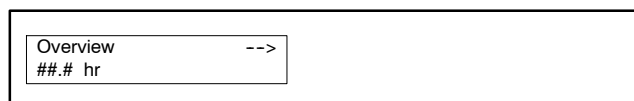

Figure 2-8 Overview Menu
4. Rotate the selector dial counterclockwise to navigate through the main menus to the Overview Menu as shown in Figure 2-8.